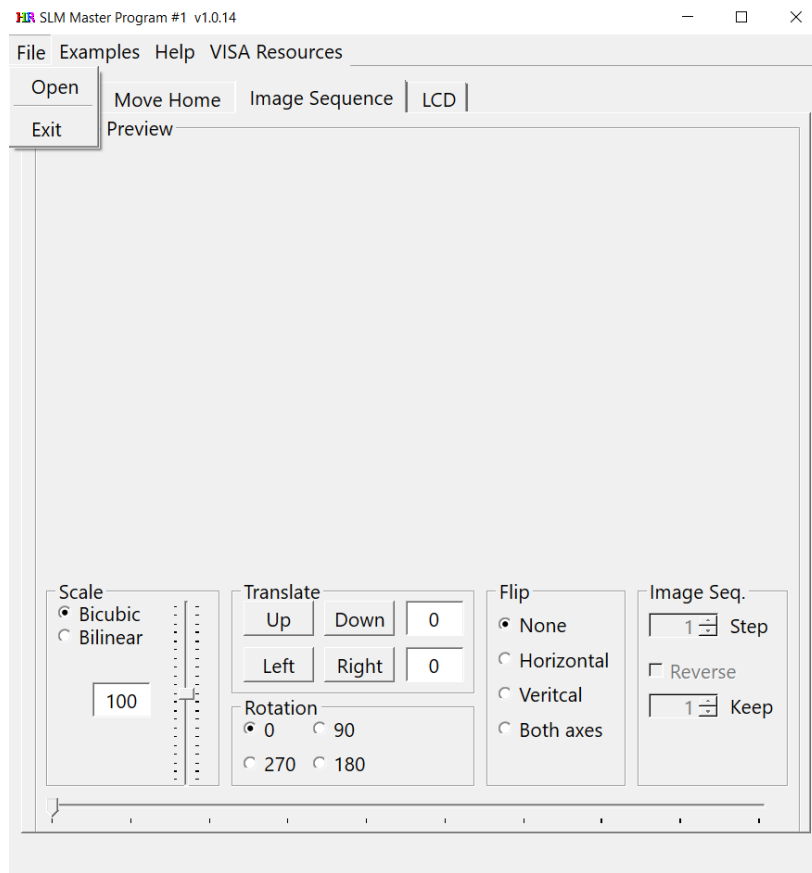

Figure 3 Image Sequence tab with File>Open menu
This **completes necessary entries on the SLM+ tab** and we now move to the Image Sequence tab \(Figure 3\). In this example, (see Image Sequence tab USAGE) once a computer folder with the desired digital image sequence is loaded into the Image Sequence tab, and any desired adjustments and entries are made there, we will **return to the SLM+ tab** to click the Run Sequence button to start the H1 master recording sequence of exposure cycles (after checking all items on the **studio master checklist**).
**Image Sequence tab Entry windows, sliders and option/radio buttons from left to right, top to bottom:** See Figure 3.